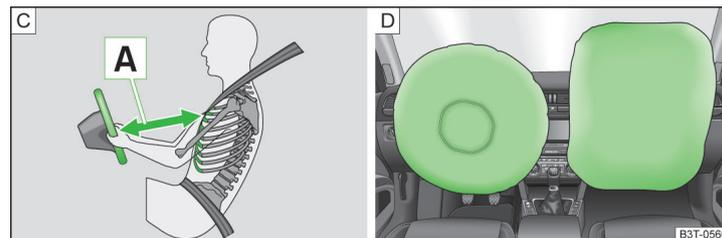

Fig. 9 Safe distance to steering wheel/gas-filled airbags
The airbags inflate in front of the driver and front passenger when they are deployed » Fig. 9 - D. The forward movement of the driver and of the front passenger is cushioned when they make contact with the fully inflated airbag and the risk of injury to head and chest is thus reduced.
- For the driver and front passenger, it is important to maintain a distance of at least 25 cm from the steering wheel or dashboard **A** » Fig. 9. Not maintaining this minimum distance will mean that the airbag system will not be able to properly protect you - hazard! The front seats and the head restraints must always also be correctly adjusted to match the body size of the occupant.